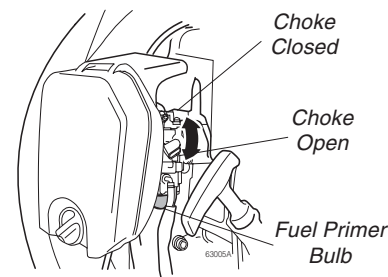

Figure 12
3. **Cold Engine Only.** Choke the engine by moving the choke lever up. (choke is closed). See Figure 12.